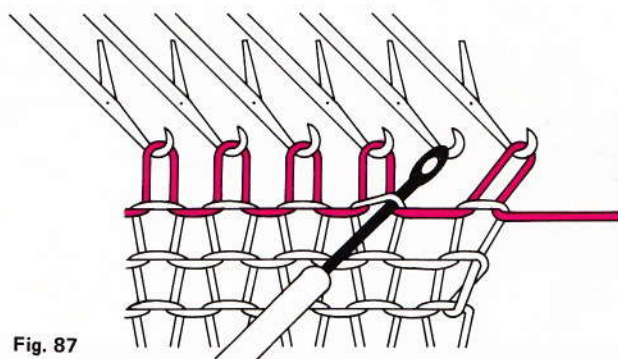

Fig. 87
- Using the same tool pick up the loop of the 2nd stitch of the previous row (fig. 87).